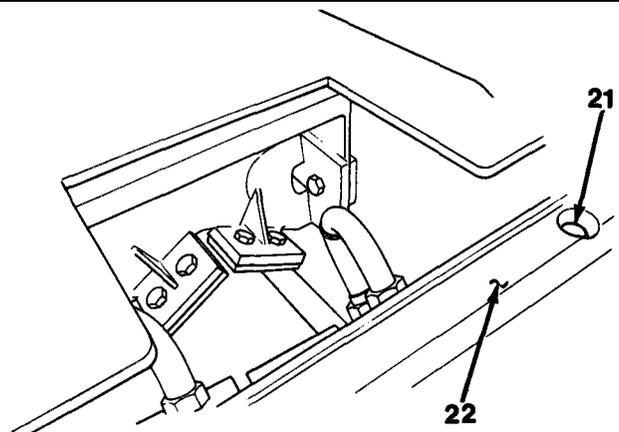

Figure 15-10
6. Remove two capscrews (21) and wear bar (22, Figure 15-10).